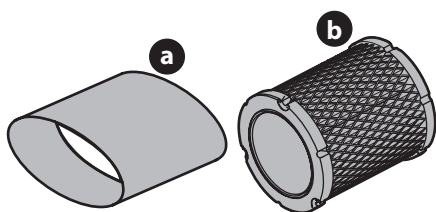

Figure 10
4. Remove the foam pre-filter (a) from around the paper air filter (b) (Figure 10 on page 11). Replace paper element when dirty or damaged. Clean foam element or replace when damaged.